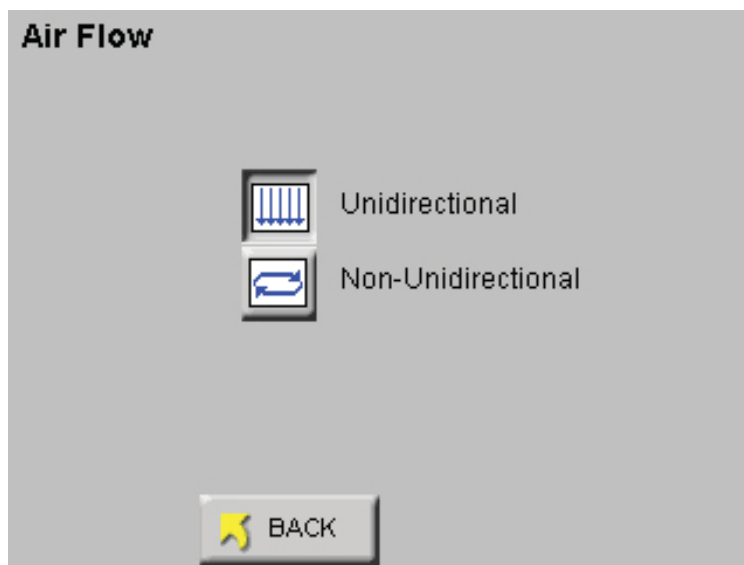

Figure 6-87 Reports Air Flow Screen
- Press the FLOW button to display screen shown in Figure 6-87.